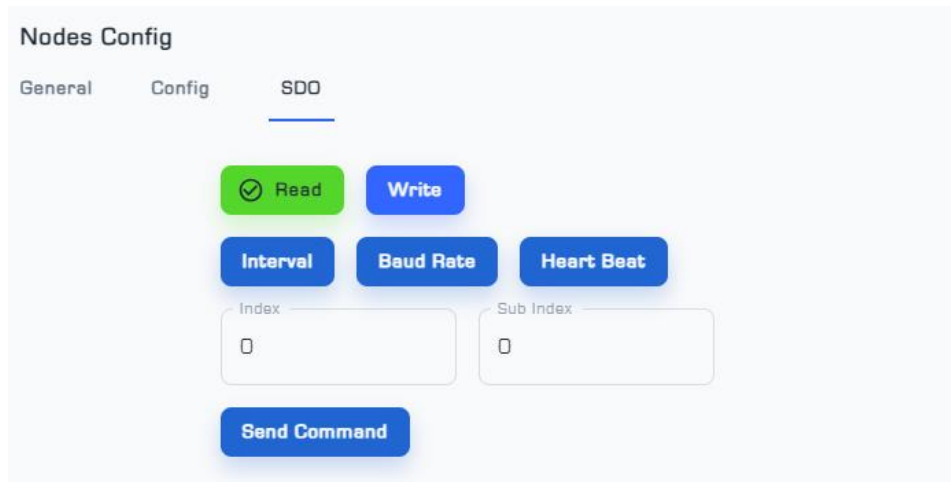

Figure 7: SDO Menu from Nodes Config page
- The SDO menu is used to change the parameters of Interval ¹, Baud Rate ², and Heartbeat³ (Figure 7).